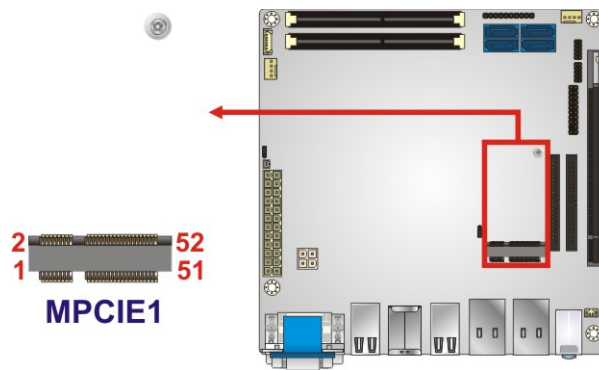

Figure 3-9: PCIe Mini Slot Location
- CN Location:** See **Figure 3-9**